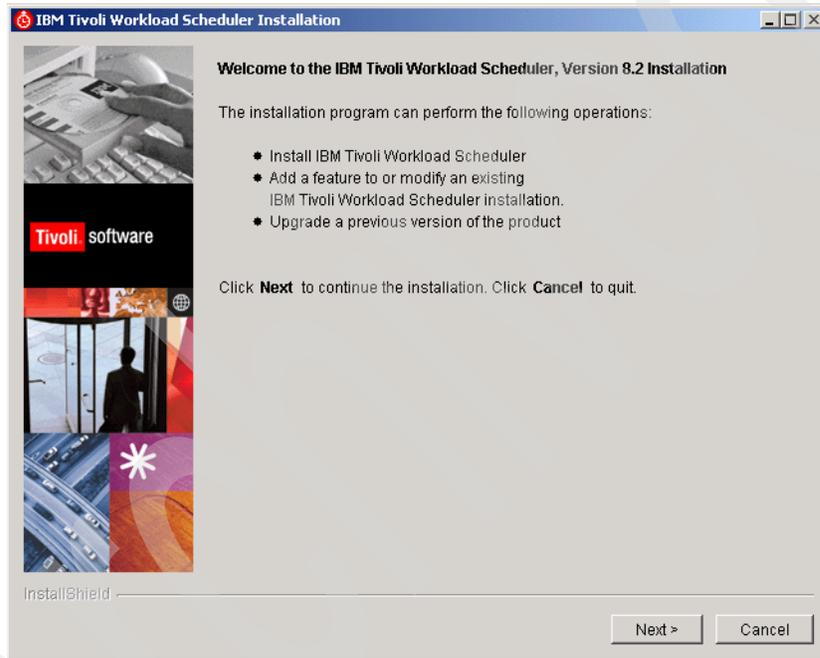

Figure 15-19 IBM Tivoli Workload Scheduler Installation window
2. After selecting your language, you will see the IBM Tivoli Workload Scheduler Installation window shown in Figure 15-19.